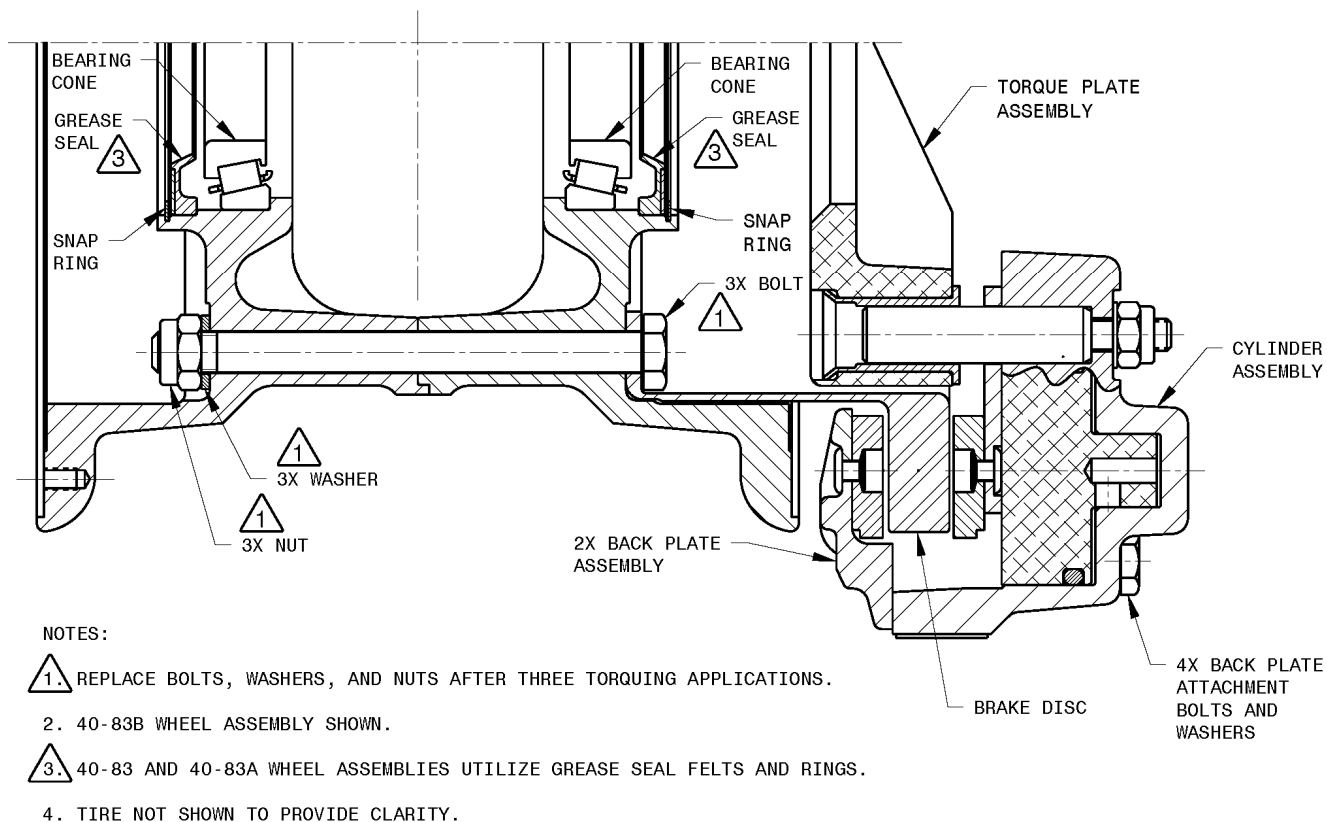

Figure 1 Remove the back plate assemblies
- (4) Refer to Figure 1. Remove the four attachment bolts and washers from the cylinder assembly and remove the back plate assemblies.
- (5) Remove the axle mounting hardware and slide the wheel assembly off the axle.
CAUTION: REFER TO FIGURE 1. REPLACE BOLTS, WASHERS, AND NUTS AFTER THREE TORQUING APPLICATIONS. THE FACTORY ASSEMBLY TORQUE COUNTS AS ONE TORQUE APPLICATION. THE PRELOAD CONDITION WILL DIMINISH AFTER THREE TORQUING APPLICATIONS AND HARDWARE MAY SELF-LOOSEN FROM VIBRATION.